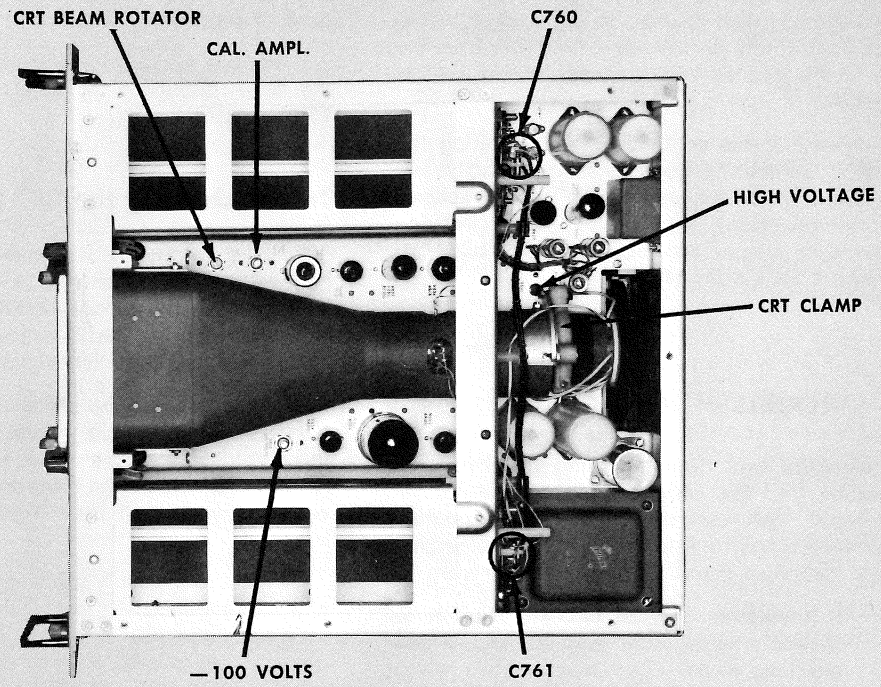
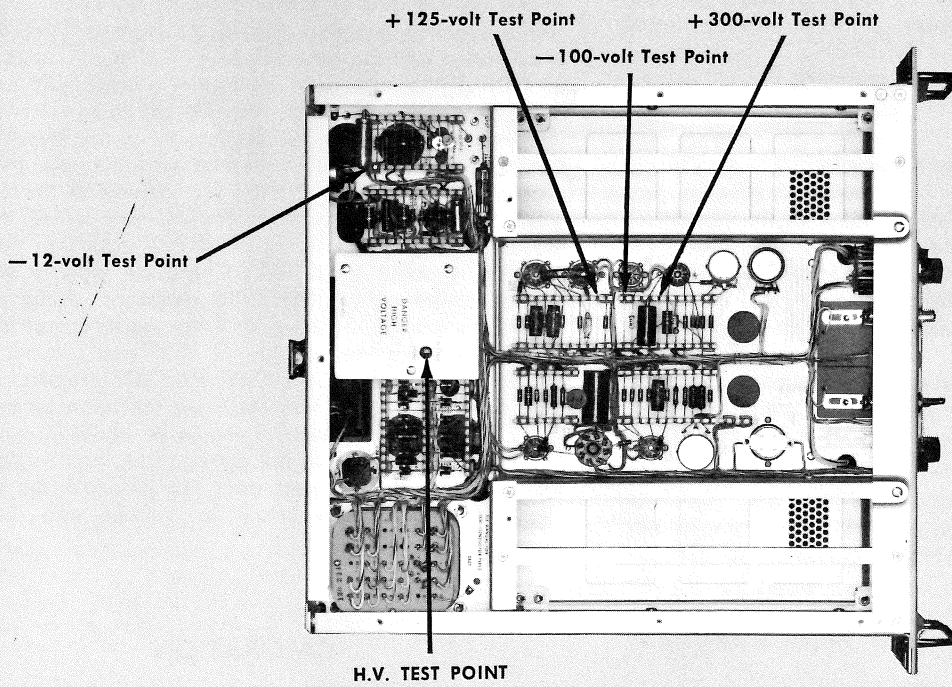

Fig. 2-1. Top view of Type RM561 showing location of internal adjustments.
Fig. 2-2. Bottom view of Type RM561 showing voltage check points.
To locate a trouble within the Crt Circuit, first remove the high-voltage shield, shown in Fig. 2-2, and see if the filament of the high-voltage rectifier, V822, is glowing. If it is, measure the voltage at the plate of V822; it should be about —3400 volts with respect to ground.
With the dc voltmeter, measure the output of the -12-, -100-, +125-, and +300-volt supplies at pins 16, 23, 15, and 10, respectively, of the plug-in connectors. Set the -100 VOLTS adjustment (Fig. 2-1) so that all of the supplies are within 3% of their rated values.
Measure the voltage at the high-voltage test point (indicated on the high-voltage shield, Fig. 2-2). Adjust the HIGH VOLTAGE adjustment (Fig. 2-1) for a reading of -3300 volts.
Check to see that the face of the crt rests snugly against the graticule. If it does not, loosen the crt clamp screw (Fig. 2-1) and move the tube forward by pushing on the tube socket. Then retighten the crt clamp screw.
Set the CALIBRATOR switch to OFF and the CAL. AMPL. adjustment (Fig. 2-1) so that the voltage at the cathode of V884B (pin 7) is exactly +100 volts. Calibration of the various settings of the CALIBRATOR switch is not necessary.
7. For the left-hand opening, adjust C760 (see Fig. 2-1) until the measured capacity in step 6 equals the value of C2 obtained in step 5. For the right-hand opening, adjust C761 (see Fig. 2-1) until the measured capacity in step 6 equals the value of C3 obtained in step 5.